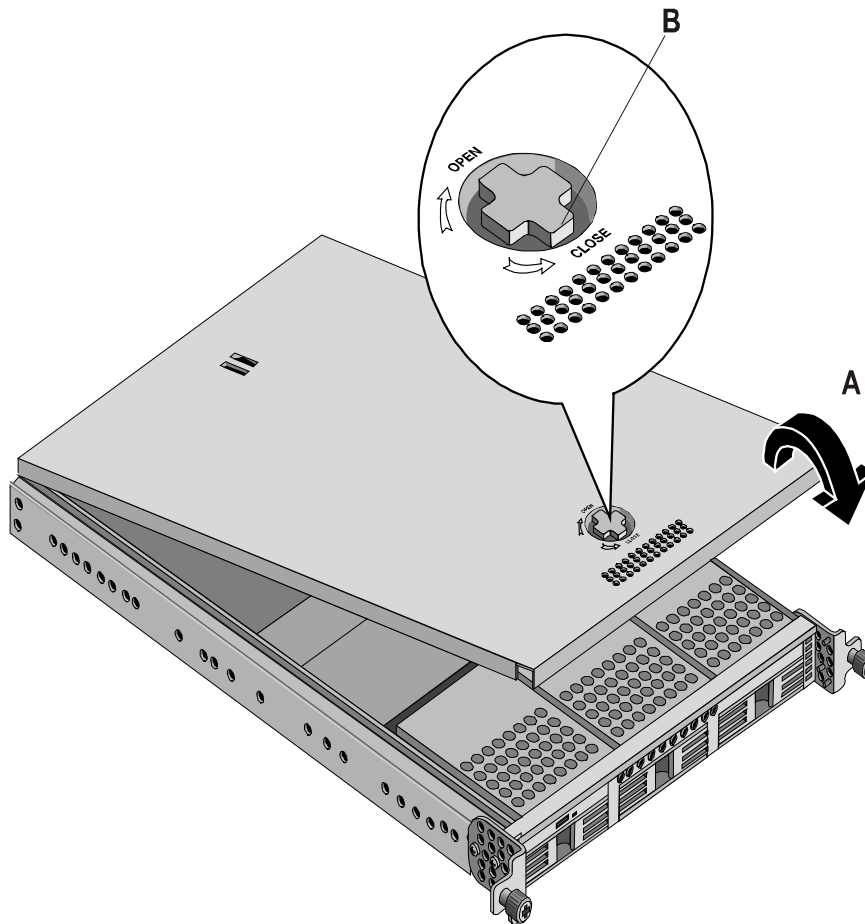

Figure 2-3. Replacing the Top Cover
6. Rotate the knob to the "Closed" position (counter clockwise position). See Figure 2-3.